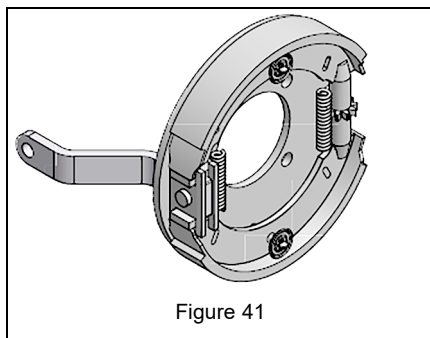

Figure 41
3. Remove wheel assembly. See Figure 41.